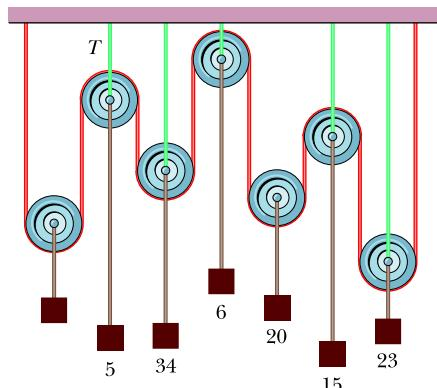

Figure 12.10 Question 12.
**12** A physical therapist gone wild has constructed the (stationary) assembly of massless pulleys and cords seen in Fig. 12.10. One long cord runs from the ceiling at the right to the lower pulley at the left, looping halfway around all the pulleys. Several shorter cords suspend pulleys from the ceiling or piñatas from the pulleys. Except for one, the weights (in newtons) of the weights are indicated. (a) What is that last weight? (Hint: When a cord loops halfway around a pulley as here, it pulls on the pulley with a net force that is twice the tension in the cord.) (b) What is the tension in the short cord labeled  $T$ ?